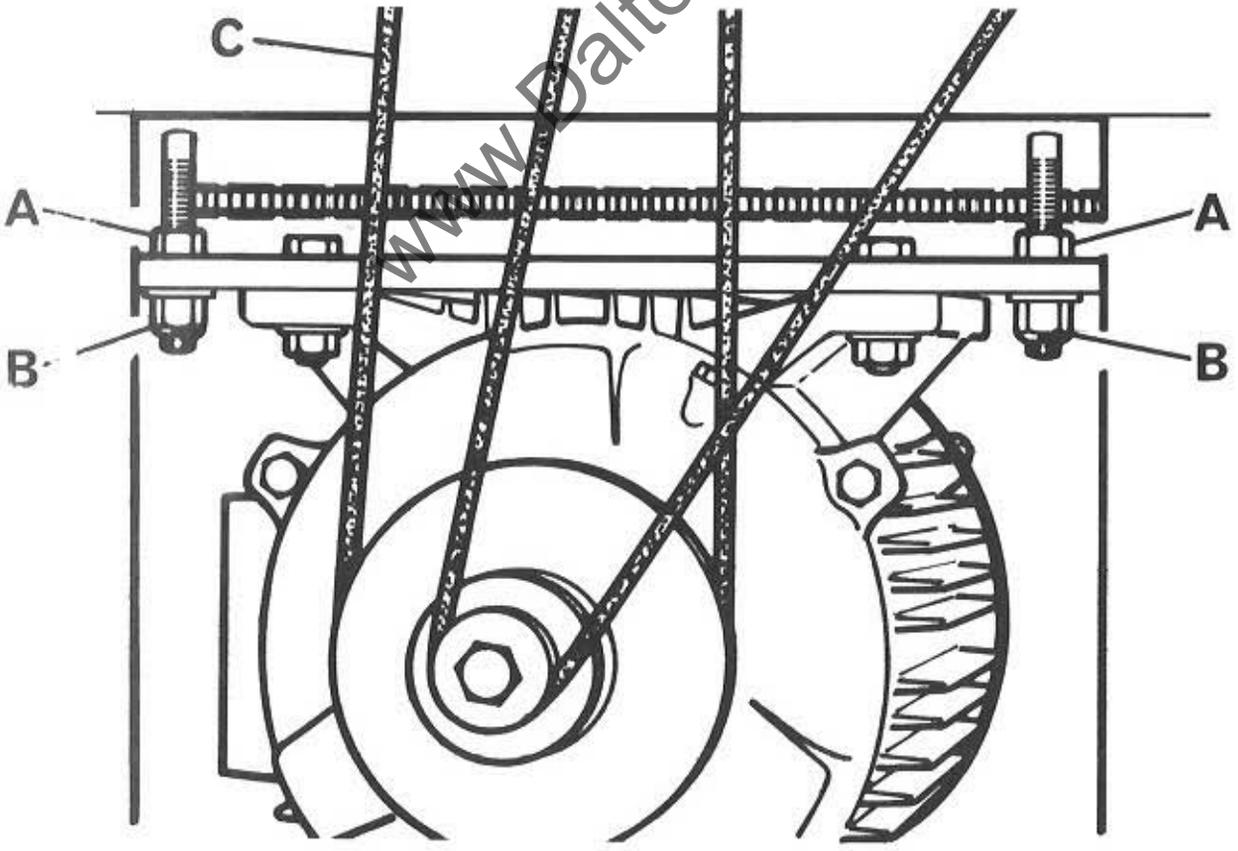

FIG. 7
2. Loosen 2 hexagon head nuts "A" in FIG. 7, then turn 2 aerotight nuts "B", so releasing tension on cutterblock drive belt "C".
5. Loosen 2 aerotight nuts "B" in FIG. 7 then turn 2 hexagon head nuts "A" until correct cutterblock belt tension is attained, i.e. the belt should run neither too tight nor too slack. When correctly set, relock 2 aerotight nuts "B".